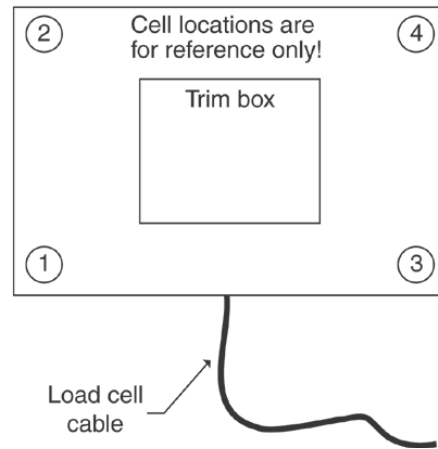

Figure No. 3
3. Refer to Figure No. 3 for load cell location reference.